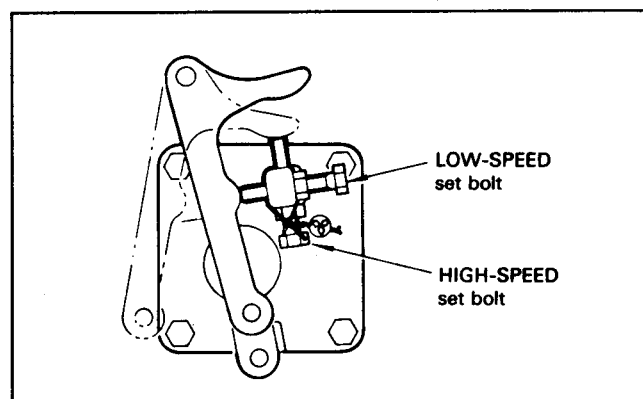

Figure 28a
3. Loosen the lock nut on the high speed set bolt (Fig. 28a).
3. Loosen the lock nut on the low speed set bolt (Fig. 28a).